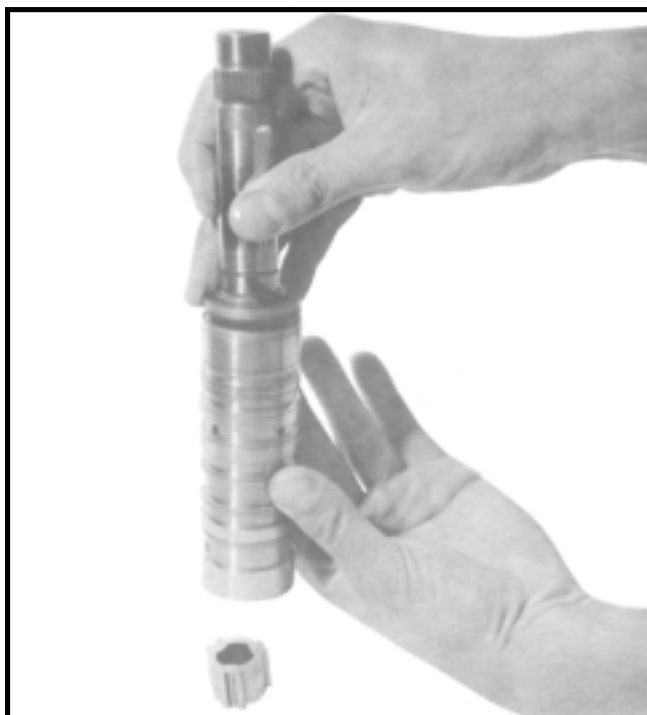

Figure HGA-14
20. Remove the drive ring (18) by placing the end of the spool (22) on a table surface. Rotate the input shaft (16) to extremes of travel until the drive ring falls free. (See Figure HGA-14).